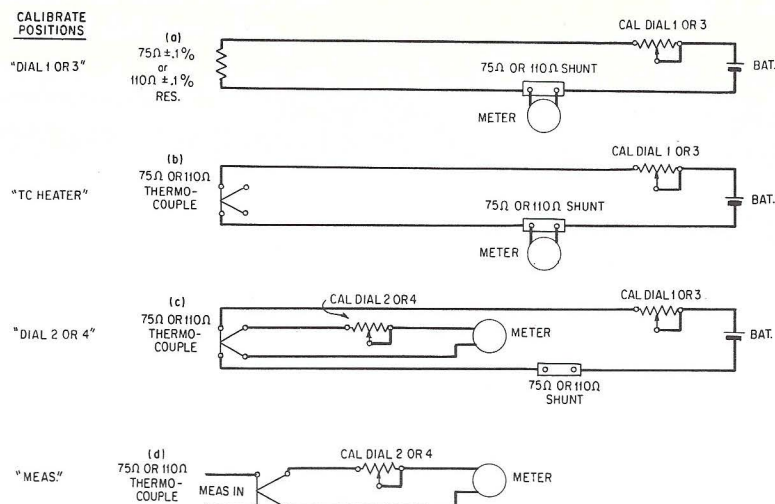

Fig. 4 - 70A Power Meter Calibration Schematic
**4.02** The following calibration should be made whenever maximum absolute accuracy is desired and at least at the start of each day's tests, or whenever a thermocouple has been changed or severely overloaded. If the thermocouple calibration as outlined in the calibration procedures do not check, the thermocouple element should be replaced. If a calibration becomes necessary in the middle of a series of measurements in which the maximum differential accuracy is desired, measurements already made should be repeated. In the following procedures refer to Fig. 4 which shows the essential circuit conditions prevailing for each of the four CAL dial positions. Always tap the meter case lightly to eliminate friction in the needle bearing.